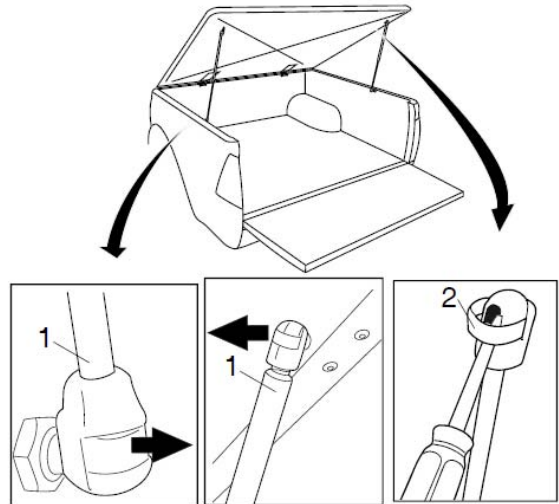

FIGURE 2
1. Open tonneau cover, Detach gas strut (1) by inserting a small screwdriver and adjusting the spring clip (2) on the gas strut (1). Refer to figure 2.